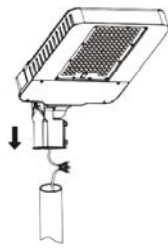

FIG.8
- Connect the power lead properly, Make wiring connection (see **WIRING**) and lay the wires in the pole, insert the slipfitter to the pole(see **FIG.8**).